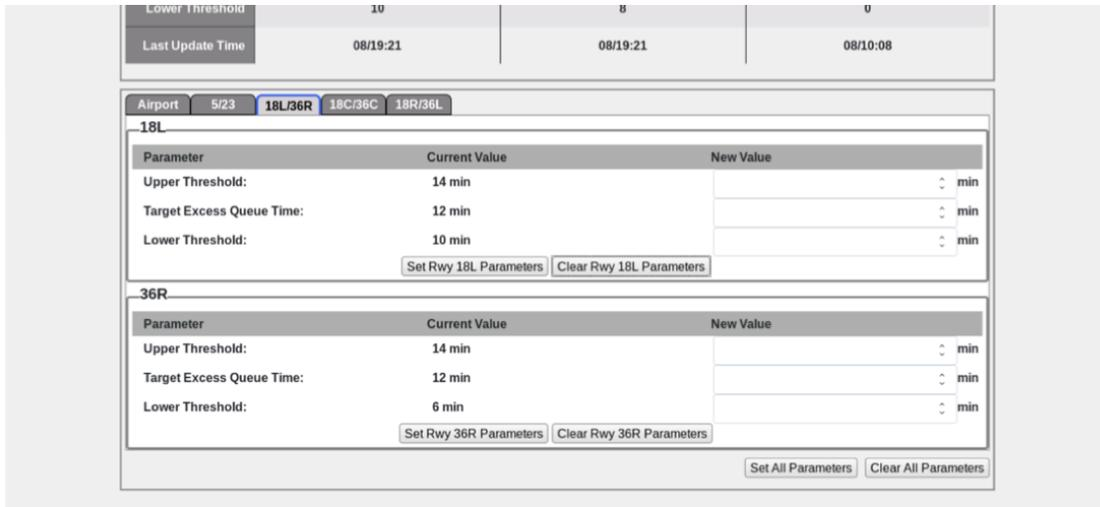

Figure 10. Clicking Clear Rwy 18L Parameters cleared any new selections under New Value and the orange outline (indicating changes) disappeared.
Step 2a: Click on the ‘Clear <Runway> Parameters’ button to reject all changes in the specified ‘Runway’ tab only. Alternately, the ‘Clear All Parameters’ button (below the resource tabs) can be selected to reject all changes across all tabs. When the parameters are cleared, both the entries and the orange box around the tab will disappear, shown in Figure 10. **Note** that both ‘Clear’ button options will only revert changes that have not been Set; once the Set button is clicked, the clear button *will not* revert the entries to the previous settings.